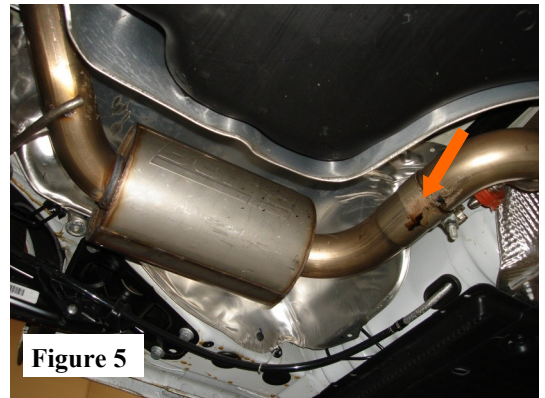
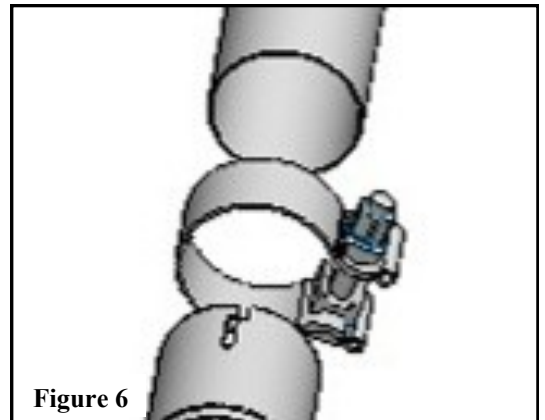

Figure 5
Figure 6
3. Place the Accuseal clamp over the tailpipe assembly and slide this pipe over the Front Muffler assembly. Connect the (2) hangars into the OE rubber isolators. Slide the Accuseal clamp over the notches and rotate the clamp-bolt 90-degree from the notches. The clamp-bolt should be positioned between the notches. (See Fig.5) **DO NOT TIGHTEN THIS BOLT. NOTE: When properly clamped, the Accuseal pipe closes in a circular-shape with interlocking notches creating a proper seal. The pipe will distort or ovalize in shape if the clamp-bolt is positioned over the notches. (See Fig.6)**